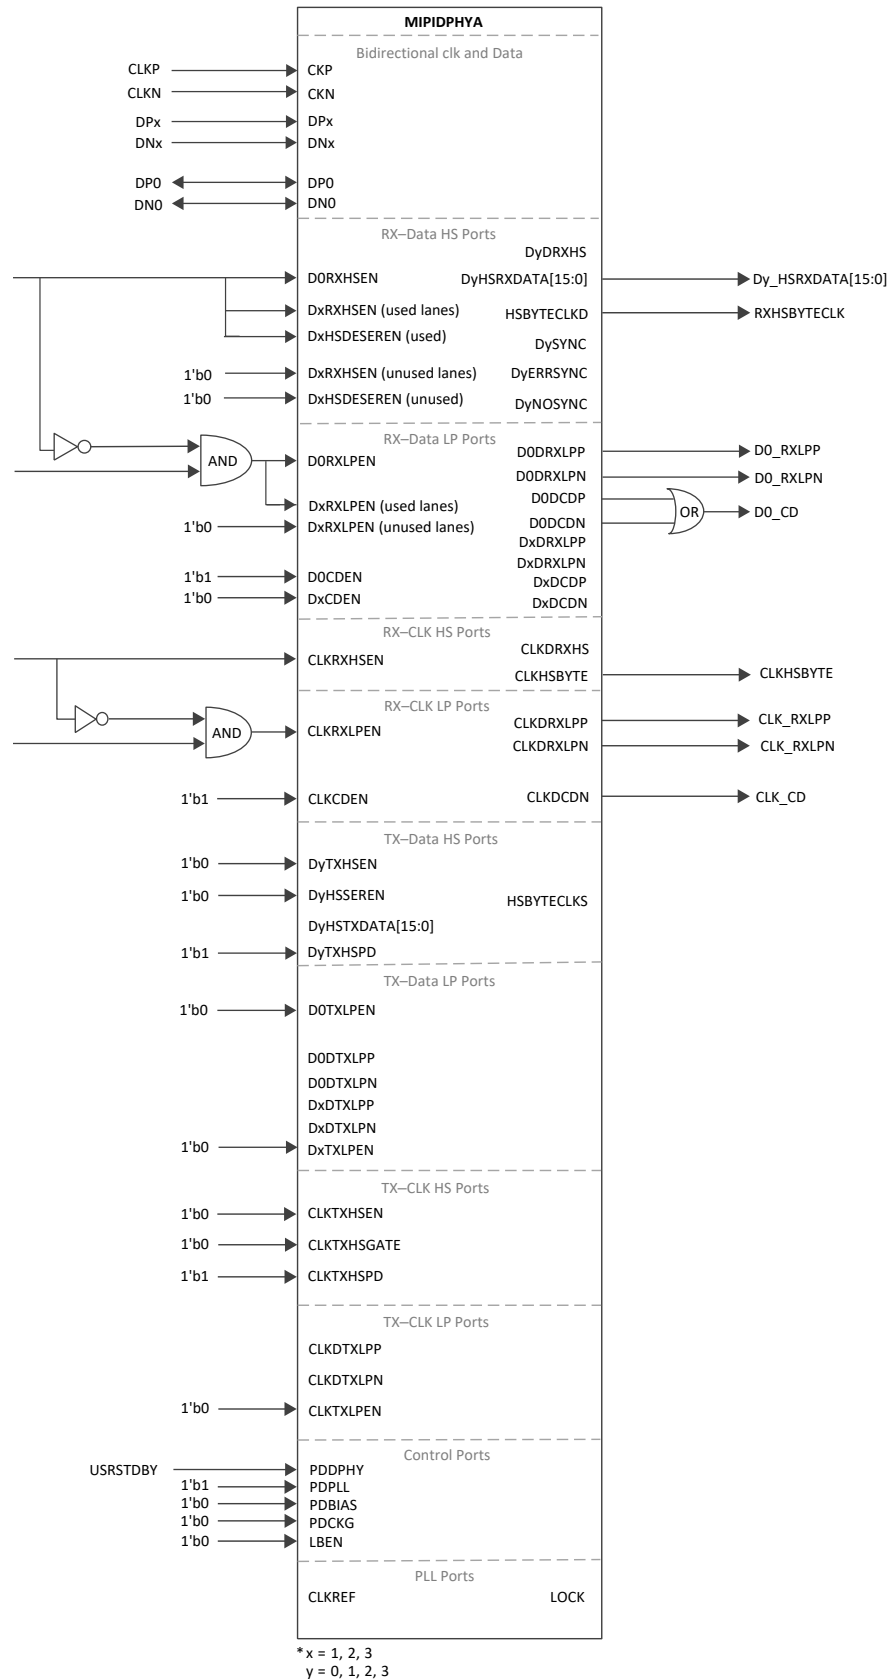

Figure 5.17. MIPI CSI2 Receive Interface with Hard D-PHY Module
- Figure 5.17 shows the signals connected to the fabric and the automatic settings when the hardened D-PHY is configured for CSI-2 receive mode. The Clarity Catalog GUI settings automatically powers down unused lanes of the hardened D-PHY.
- Only D0 and CLK bits are used in LP mode. The key difference between CSI-2 and DSI is that the D0 signal is always an input in HS and LP modes, rather than bi-directional. D1, D2, and D3 pins (when those lanes are used) should be toggled between LP/HS mode based on D0 state as shown in Figure 5.17.